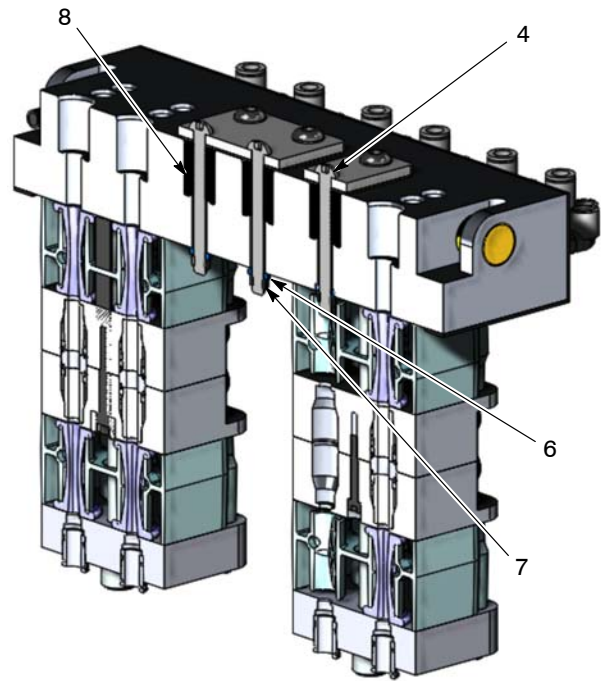

Figure 18 Siphon Block Pump Manifold Section View
**NOTE:** Clean the blanking plate (2) with isopropyl alcohol before applying the gasket (1). The gasket alignment is not symmetrical.
1. Insert the bushing (5) into the pump port.
2. Align the appropriate blanking plate (2) with the ports on the pump manifold.
3. Insert the 65-mm button head cap screw (4) through the top of the blanking plate.
4. See Figure 18. From the bottom side of the pump manifold, the washer (6) slides onto the 65-mm button head cap screw (4) and then the nut (7).
5. Using a 5-mm Allen wrench, insert the 25-mm button head cap screw (3) into the threaded pump port.
**NOTE:** The manifold seal (8), Nordson part 1608597, comes pre-installed. If there is a need to replace the seal, apply adhesive to a syringe or Q-tip and securely set the seal in the manifold port.